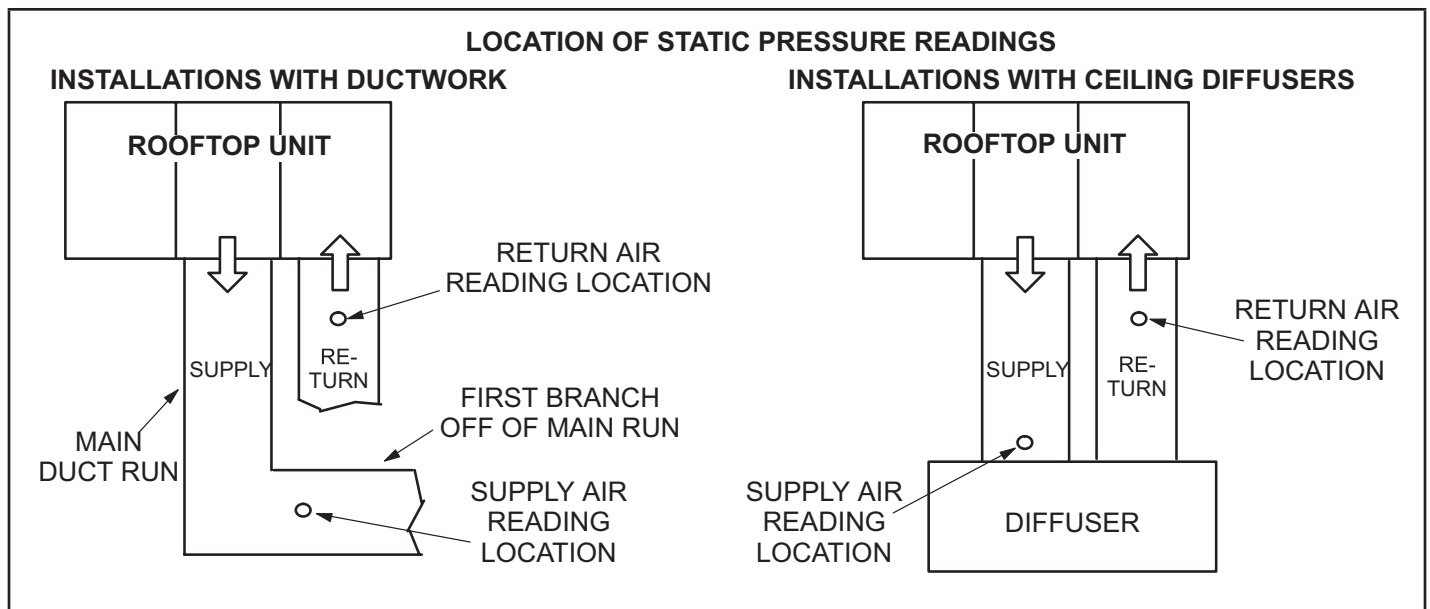

FIGURE 10
- 2 - With all access panels in place, measure static pressure external to unit (from supply to return). Blower performance data is based on static pressure readings taken in locations shown in figure 10.